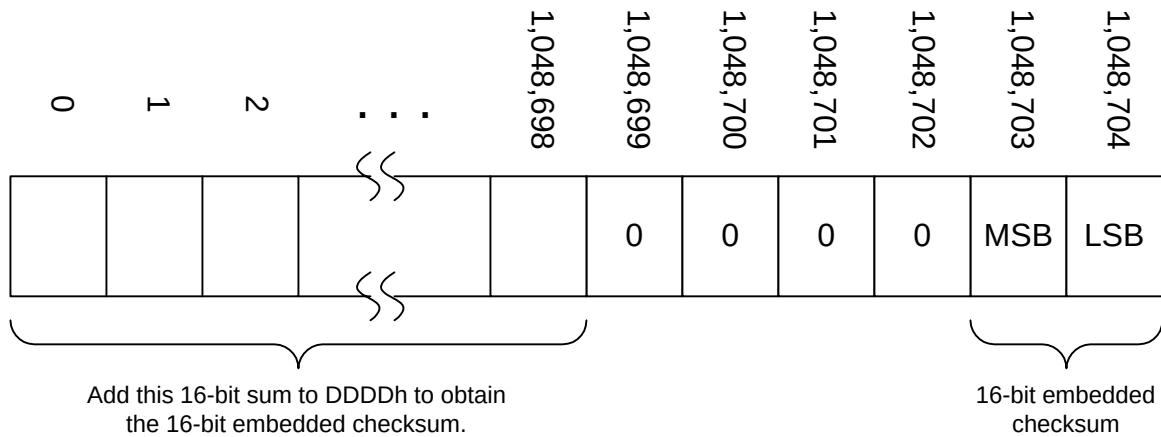

Figure 23-1 Calculating the firmware checksum
- To ensure that the WRITE BUFFER command finishes successfully, calculate the checksum of the new firmware data, as shown in Figure 23-1, and compare your calculated checksum to the checksum embedded in the new firmware data before you issue the WRITE BUFFER command. The checksum is the unsigned integer (16-bit) sum of the first 1,048,699 bytes (8-bit) of the new firmware data. The last 2 bytes of the new firmware data is the embedded checksum.